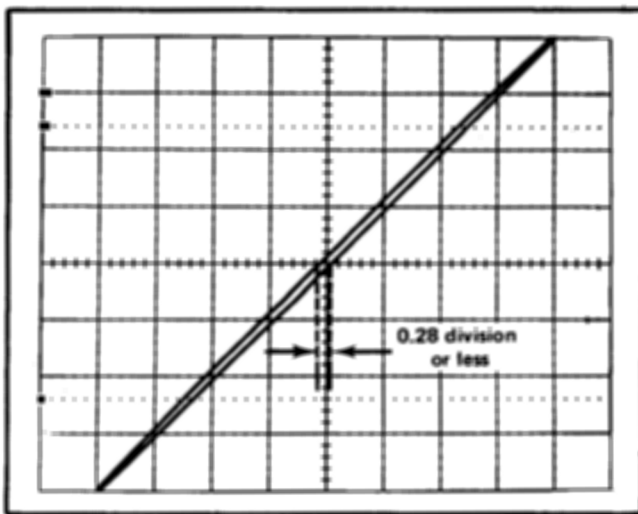

Fig. 2-7. Typical CRT display when checking X-Y phase shift.
e. CHECK—CRT lissajous display for an opening at the center vertical line of 0.28 division or less (indicates 2° or less phase shift; see Fig. 2-7).